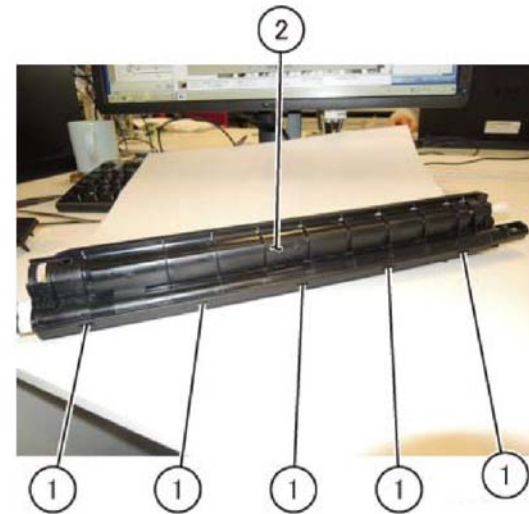
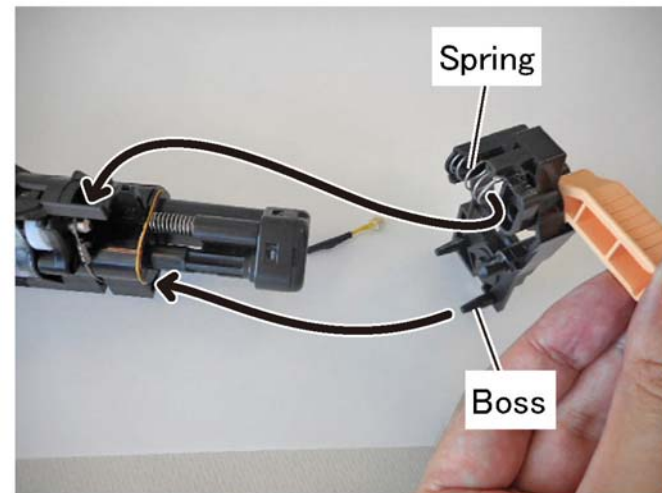

Figure 3 New upper SUB cover assembly
Figure 4 Developer front cover
6. Remove the new upper SUB cover assembly, Figure 3.
- a. Release the five hooks (1).
- b. Remove the upper SUB cover assembly (2).
7. Install the developer front cover to the new developer assembly in order to use as a stand, Figure 4.